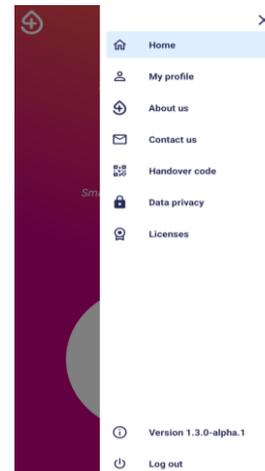

Figure 38. Courier driver 2 Handover QR code
- b) Tap on "Handover code" (see Figure 38).